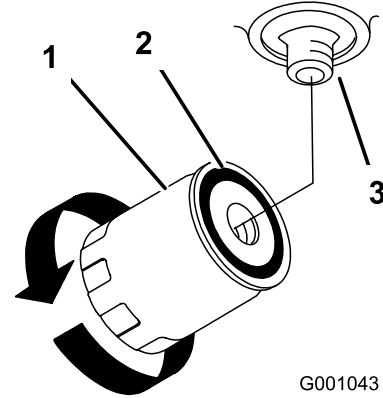

Figure 71
7. Apply a thin coat to the rubber gasket on the replacement filter (Figure 71).
9. Fill the hydraulic tank with hydraulic fluid until the fluid overflows the filter and then turn the oil filter clockwise until the rubber gasket contacts the filter adapter, then tighten the filter an additional 1/2 turn (Figure 71).